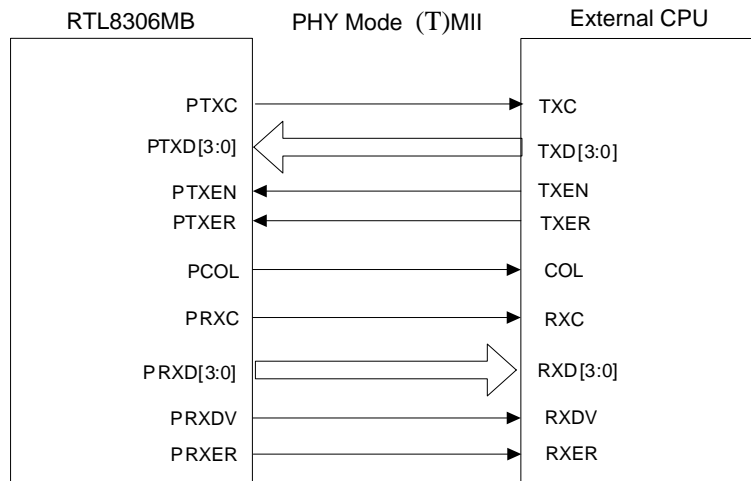

Figure 10. PHY Mode (T)MII Signal Diagram
7.3.5.1 PHY Mode (T)MII
PHY mode (T)MII means (T)MII at the RTL8306MB drives the transmitting and receiving reference clock. Figure 10 shows the signal diagram for PHY mode (T)MII. PTXER/PRXER/PCOL are not connected in TMII PHY mode.